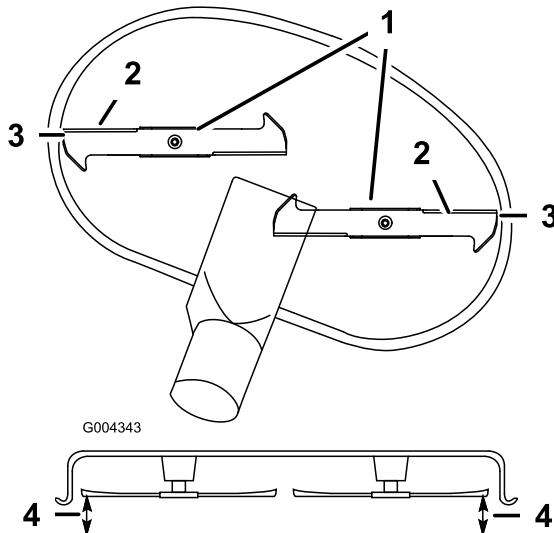

Figure 53
- Carefully rotate the blade(s) side to side (Figure 53). Measure between the outside cutting edges and the flat surface (Figure 53). If both measurements are not within 3/16 inch (5 mm), an adjustment is required; continue with this procedure.